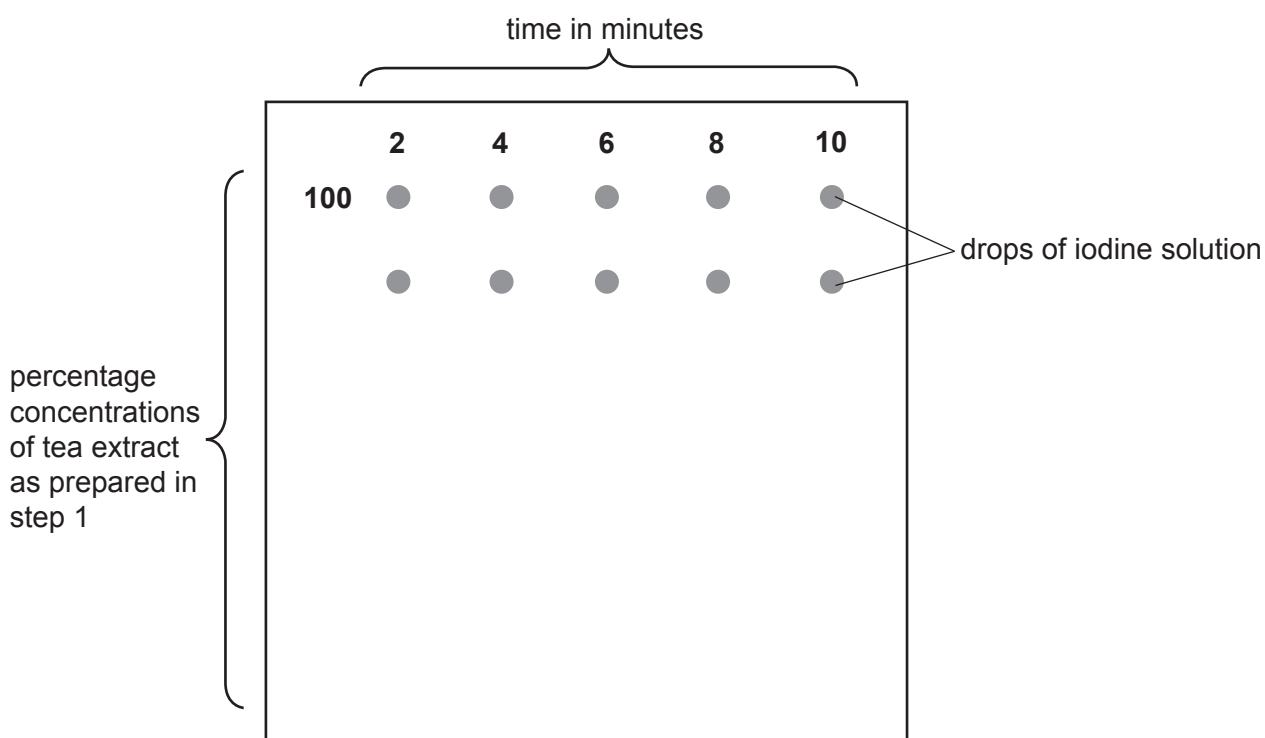

Fig. 1.2
7. Label a white tile, as shown in Fig. 1.2, with:
8. Put drops of iodine solution onto the white tile as shown in Fig. 1.2.